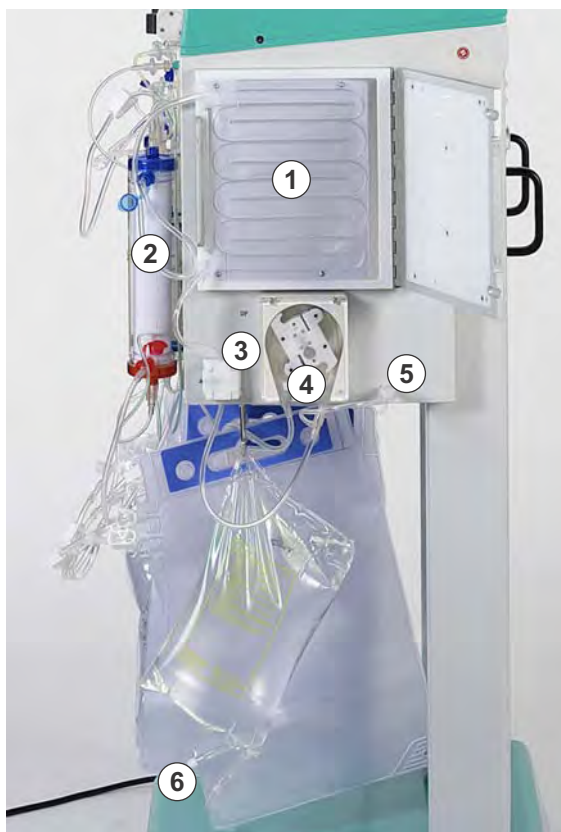

Fig. 4-14 Setting-up the dialysate line
1. Insert warming bag into plate warmer (Fig. 4-14, ①), using the holes provided in bag.
2. Connect blue inflow line to dialyzer (Fig. 4-14, ②).
3. Place blue inflow line into dialysate air detector (DAD, Fig. 4-14, ③).
4. Insert pump segment of dialysate line into dialysate pump (Fig. 4-14, ④) with blue marking on left side.
5. Screw on the pressure transducer (Fig. 4-14, ⑤).
6. Connect distributor of dialysate line to prepared dialysate bag (Fig. 4-14, ⑥) and break seal.